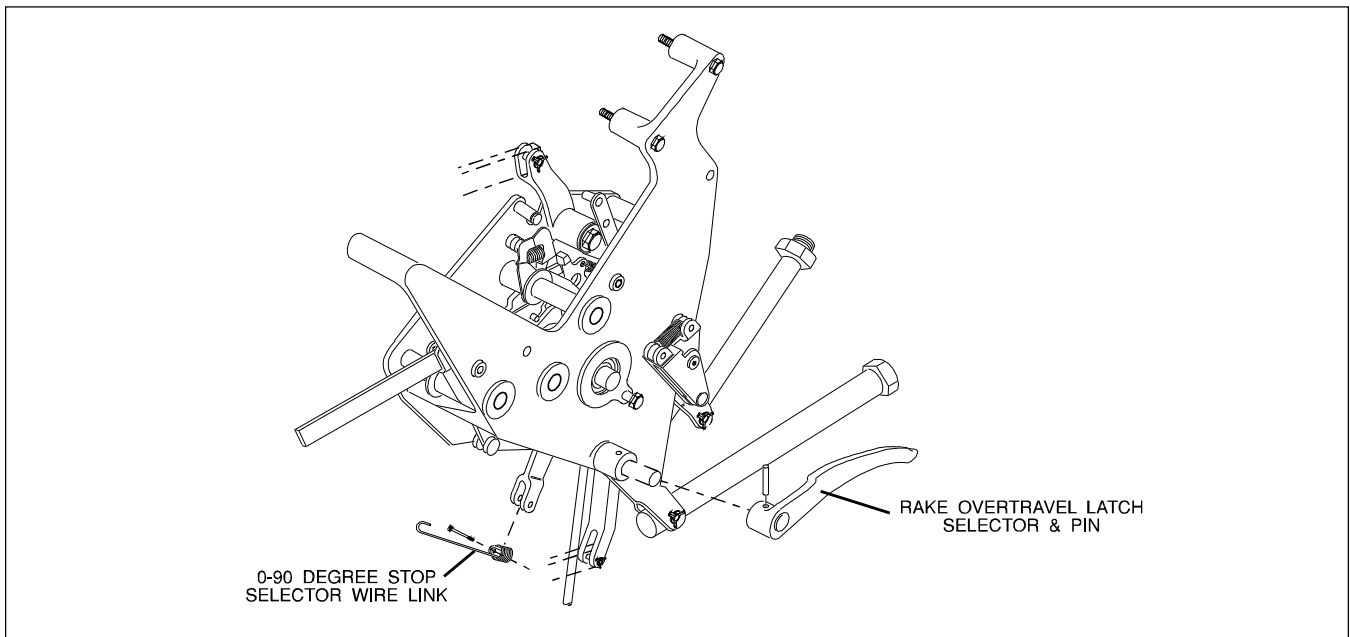

Figure 13. 90 Degree Overtravel Elimination
1. Remove the pin (part no. 11-360462-000) and the rake overtravel latch selector (part no 12-100155-000) from the "C" shaft of the detector and discard these parts (Figure 13).
2. Remove the "X" washer (part no. 11-230000-000), pin (part no. 12-100166-026), and 0-90 degree stop selector wire link (part no 12-100350-000) from the detector "C" shaft and discard these parts (Figure 13).